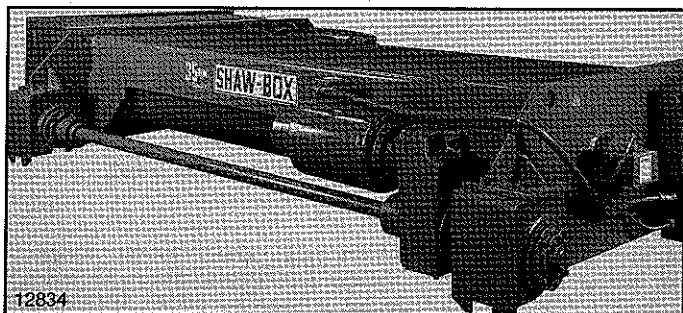

Figure 7-1. Trolley Drive Arrangement.
- a. The trolley drive has a double reduction helical gear reducer with a face mounted motor and brake as shown in Figure 7-1. This reducer is keyed to one drive wheel axle and both drive axles are connected to the traverse drive shaft by couplings. Drive wheels are keyed to their axles.